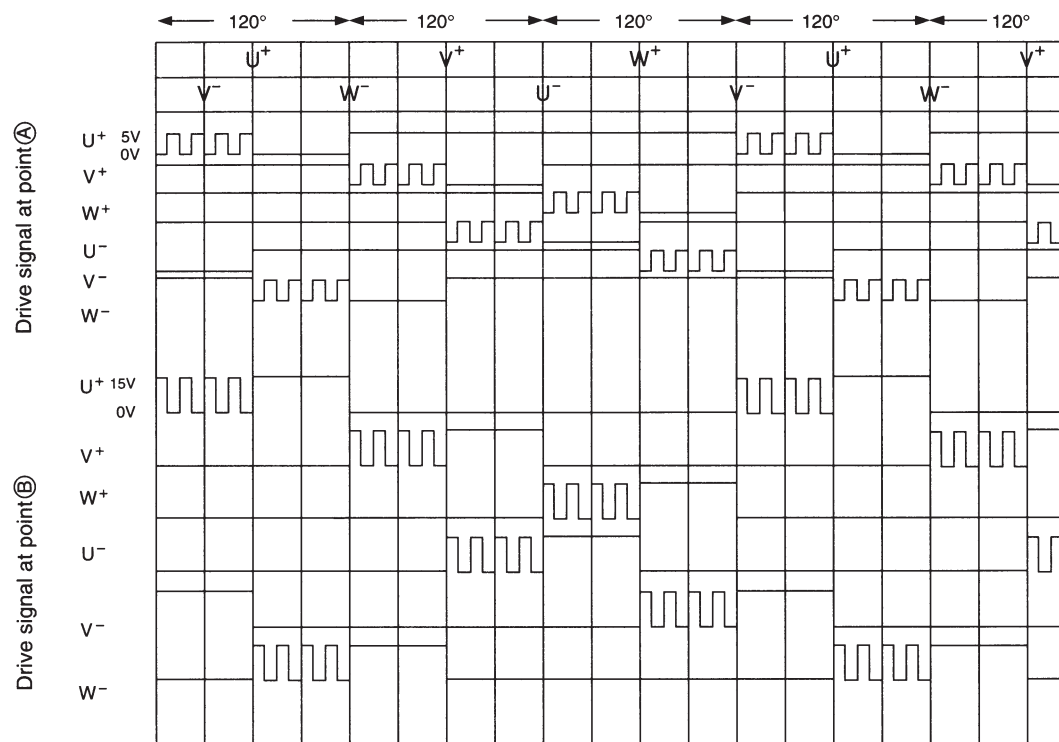

Fig. 11-2
- Fig 11-2, 0 to 5V chopper signal is output from microcomputer for each phase. The signal output from microcomputer is input to IC, inverted due to active LO, and 0 to 15V chopper signal is obtained. This signal is then applied to transistor gate of each phase to drive.